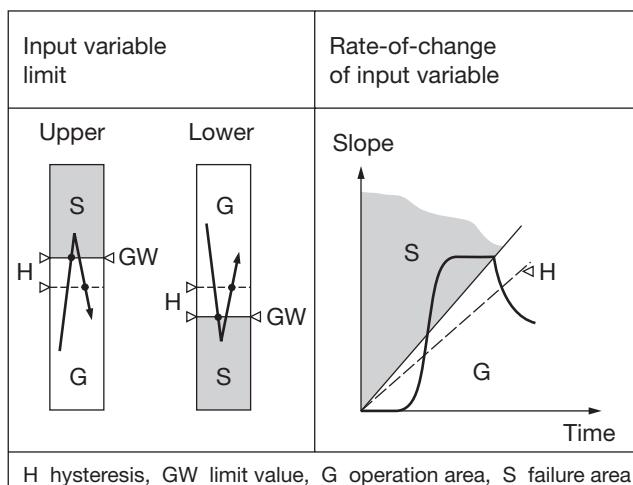

Fig. 3
- for monitoring the input variable in relation to a lower or upper limit between –10 and + 110%2 (see left side of Fig. 3)
between ± 1 and ± 50%/s (see right side of Fig. 3)